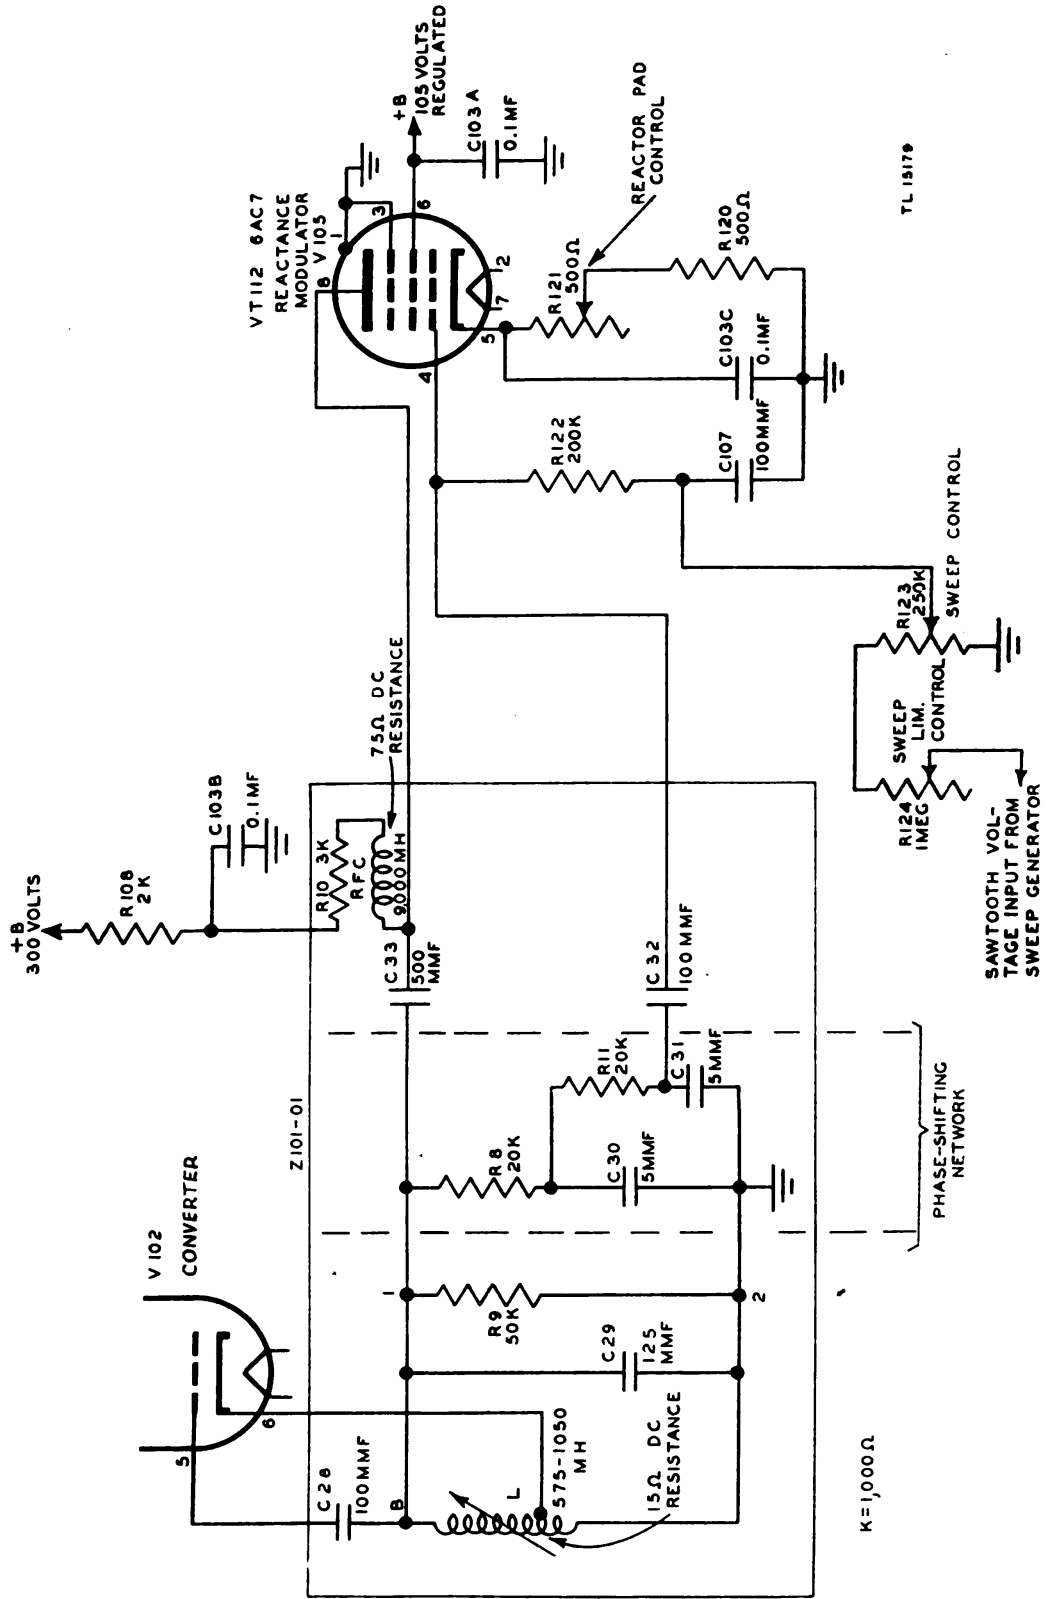

Figure 17. Simplified schematic diagram of reactance modulator.
(3) Resistor R143 is the grid resistor and R144 is the plate load resistance.
(4) The plate output is coupled to the horizontal deflection plates of the cathode-ray tube and produces the horizontal sweep. The cathode output is coupled to the grid circuit of the reactance modulator tube V105 where it makes possible frequency modulation of the high-frequency oscillator in synchronism with the horizontal sweep voltage.
16. REACTANCE MODULATOR (fig. 17).
c. Circuit of Reactance Modulator. Figure 17 shows a simplified schematic diagram of the reactance modulator used in Panoramic Adaptor BC-1031-A. All other models of adaptors use a similar circuit.
(1) The reactance modulator tube (V105) operates as a class A amplifier and is so biased by the voltage drop across the cathode resistors R121 and R120. Capacitor C103C is a cathode bypass capacitor.
(4) Tank voltage across points 1 and 2 in figure 17 causes a cor-